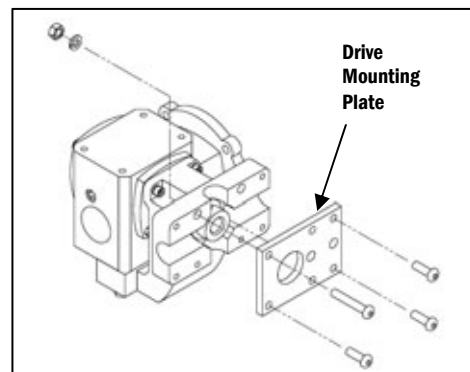

Figure 2
② Prepare the Drive Package
- a. Remove the Drive Mounting Plate by first removing four Button Head Screws using a 5/32" Allen Wrench (**Figure 2**). One screw is held in place by a nut. Use a 7/16" Wrench to remove it.